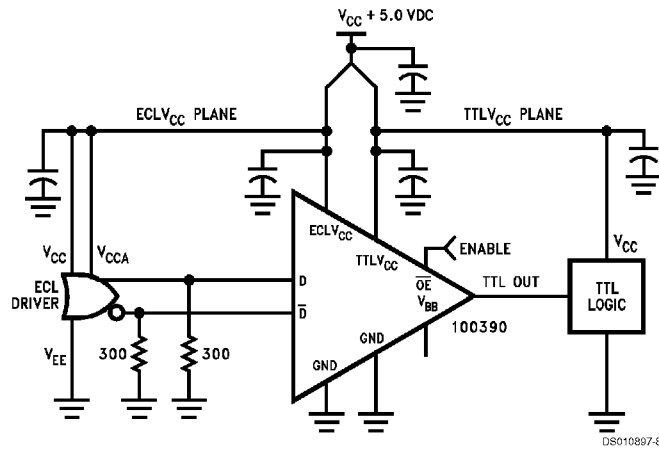

FIGURE 4.
1. Device performance will be enhanced by the use of dual V_{CC} power planes as illustrated in the Application Figures 4, 5. This will minimize the coupling of TTL switching noise into the primary reference to the ECL circuitry and take full advantage of the 100390's on chip V_{CC} partitioning.
6. Figure 4 illustrates typical differential input operation.